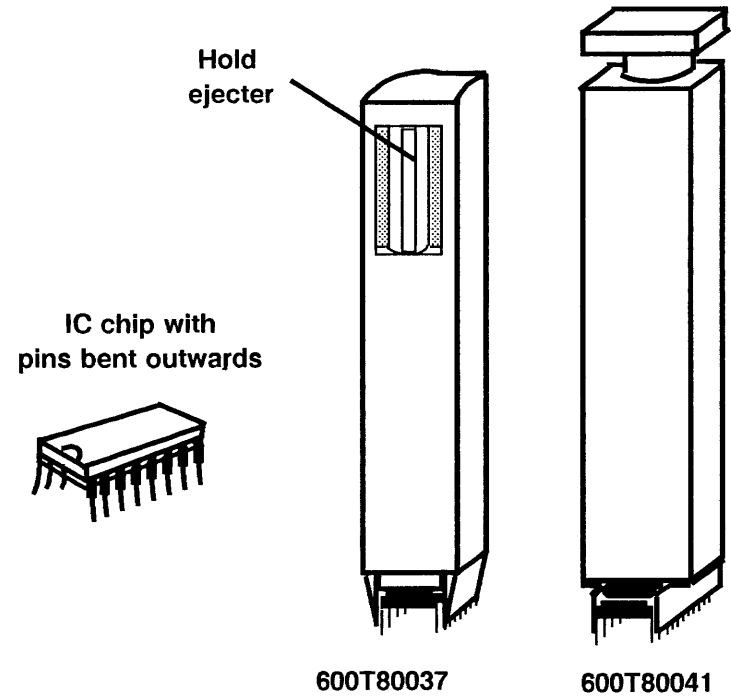

Figure 16. Straightening Bent IC Chip Pins
2. If the pins are bent outwards, they must be straightened before the IC Chip can be installed (Figure 16).
- b. Gently push the IC chip into the correct insertion tool with your fingers or place the IC chip on a flat surface and use the tool to pick up the IC chip, rocking the tool back and forth gently. (When using the 14 to 16 pin insertion tool [600T80037] to pick up an IC chip, you must depress the ejector button.) (Figure 16)